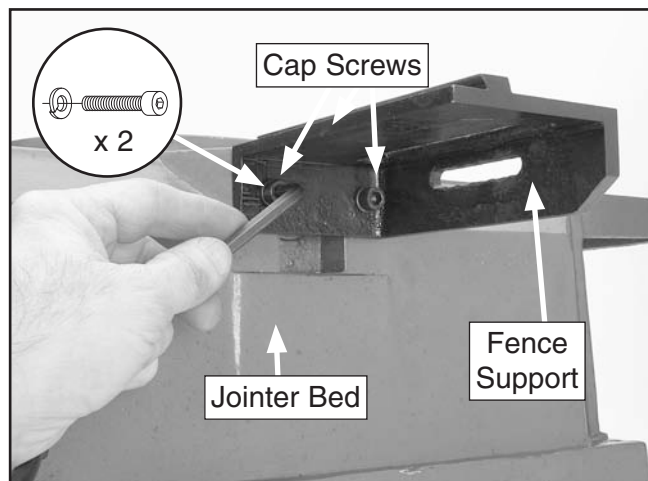

Figure 9. Attaching the fence support to the bed assembly.
2. Use (2) M8-1.25 x 20 cap screws and (2) 8mm lock washers to attach the fence support to the jointer bed (see **Figure 9**).